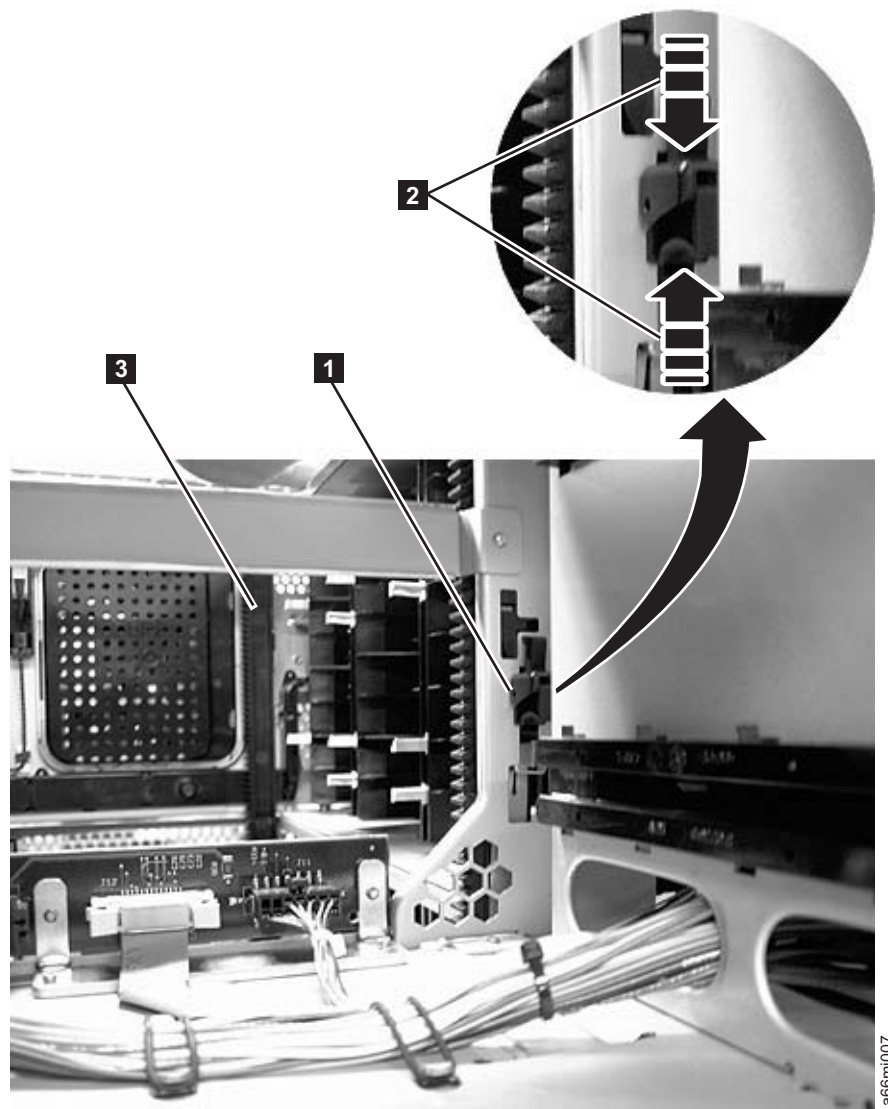

Figure 8-107. Removing a gear rack
4. Slightly push up and pinch the gear rack locking mechanism (**1** in Figure 8-107) to unlock the gear rack. The gear rack is spring-loaded against the tab and will be removed through the bottom of the module.
5. While pinching the gear rack locking mechanism (**2** in Figure 8-107), push the gear rack down then release your hold on the locking mechanism.